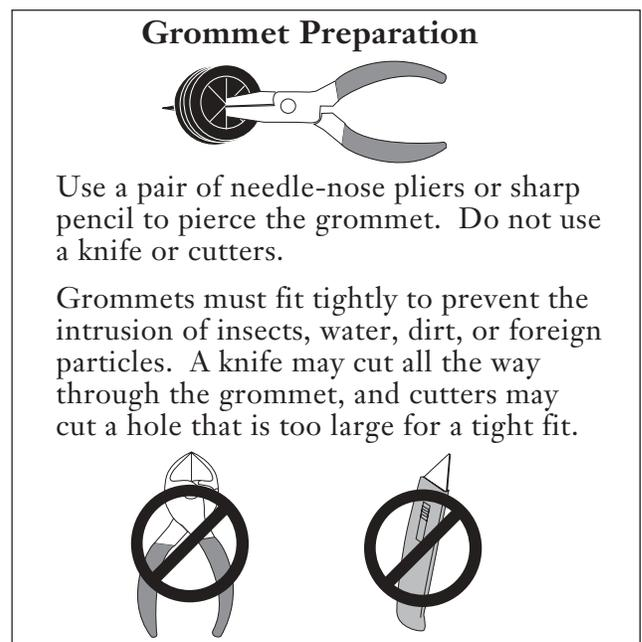

Figure 4
**Grommet Preparation:** If routing additional wires through the rubber grommet located at the bottom of the unit, punch a small hole in the grommet as shown in Figure 4. Do not break through the edge of the grommet. Doing so may compromise the grommet’s holding ability.